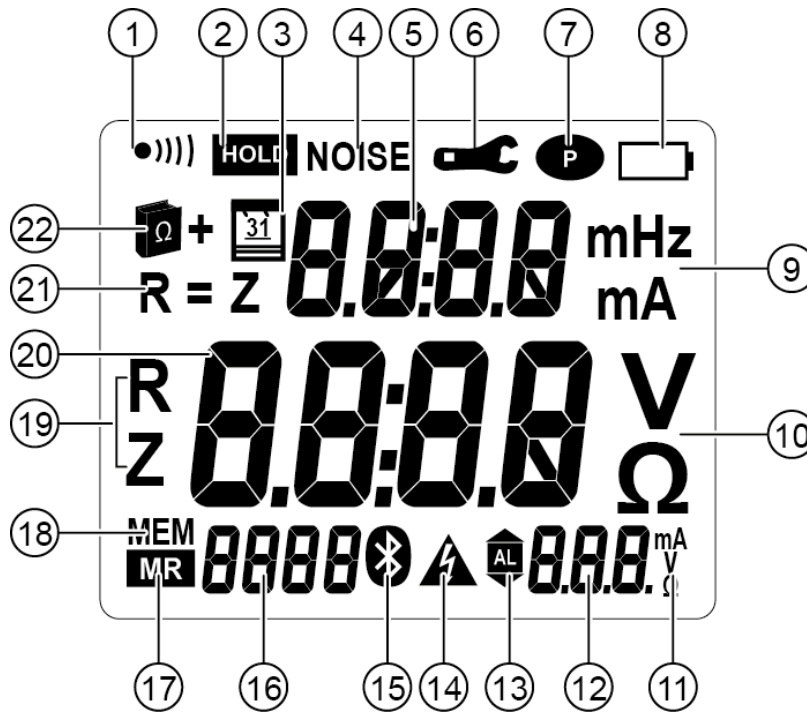

Fig. 6
The audible signal can be activated or deactivated in *SET-UP* (see chapter 8, menu 2). The ●))) icon (Fig. 6, item 1) behaves as follows: